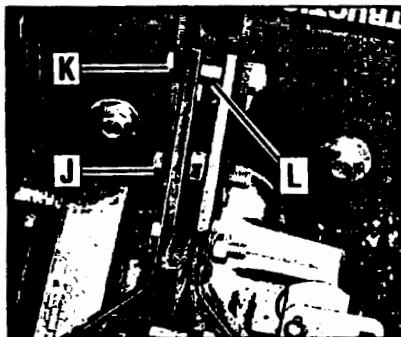
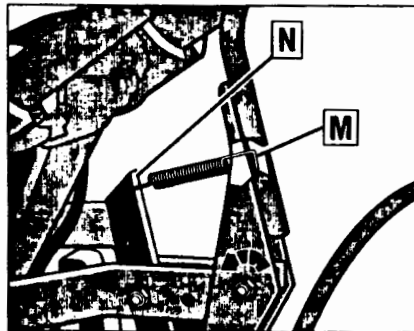

Figure 2-7: Drive Lever assembly.
Figure 2-8: Clutch pawl spring. Tilt Wheels/Tines/PTO Lever fully forward before installing spring.
3. Slide the plates at the end of the Wheels/Tines/PTO Lever over the yoke plates (Figure 2-9). To aid in the next step, insert a screw temporarily into the forward most holes (J, Figure 2-7) of the
5. Retrieve the clutch pawl spring (Figure 2-8) from hardware bag.
Remove the temporary screw (J, Figure 2-7) from the forward holes and move the Wheels/Tines/PTO Lever fully forward. Install the wider hook end of the clutch pawl spring (M, Figure 2-8) down into the small hole at the end of the handle. Use pliers to insert the other end into the hole in the long link bar (N).